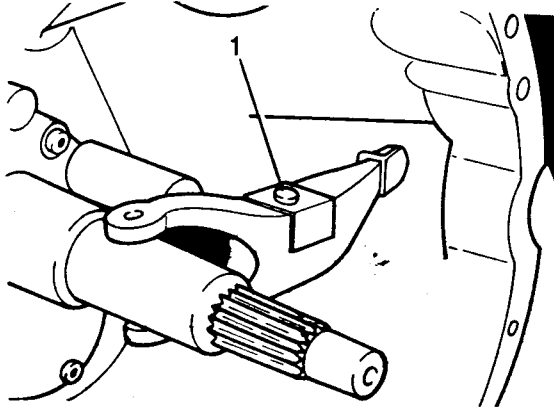

Fig H1.33
- (10) Refer to Fig H1.33. Replace the bolt, washer and clip (1) holding the clutch lever to its supporting pivot.